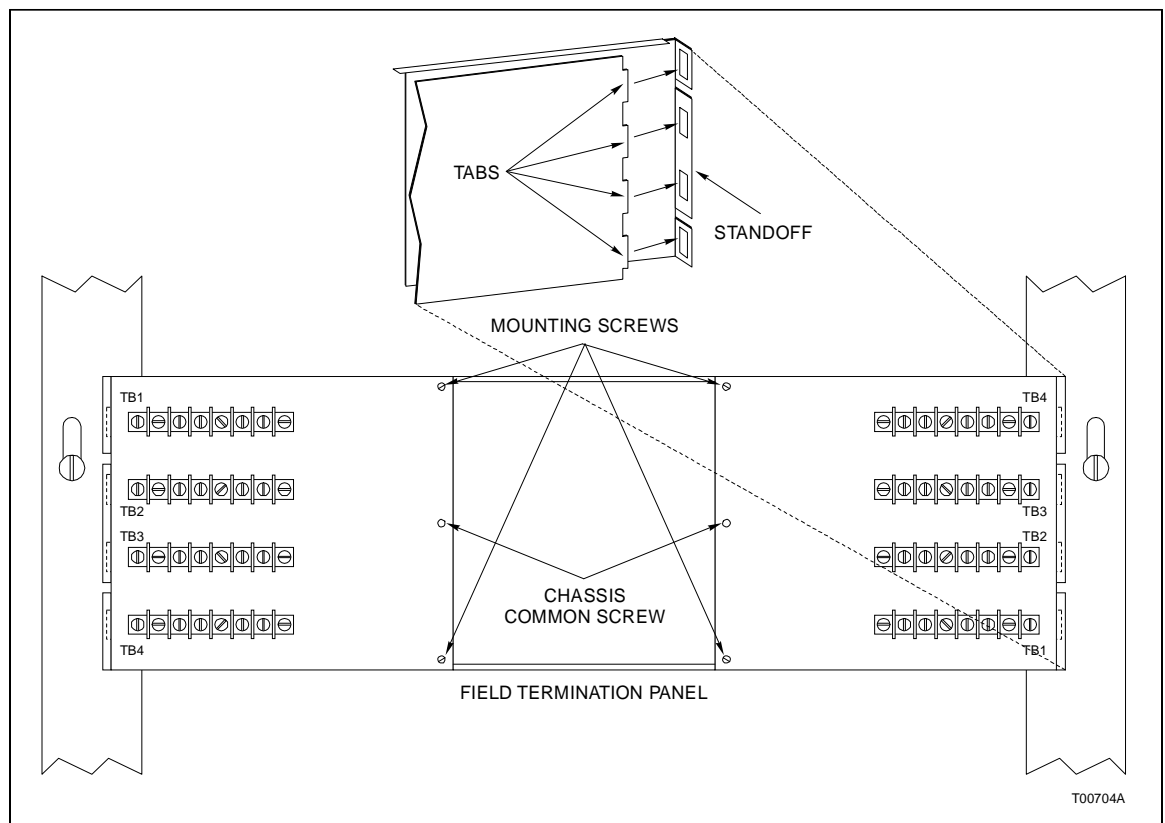

Figure 2-3. Termination Unit Mounting Diagram
1. Insert the tabs of the circuit board into the proper slots of the field termination panel standoff (See Figure 2-3) and slide the circuit board into position.
2. Secure the termination unit circuit board to the field termination panel with two screws from the IEFAS01 Cabinet Mounting Hardware Kit (See Figure 2-3).